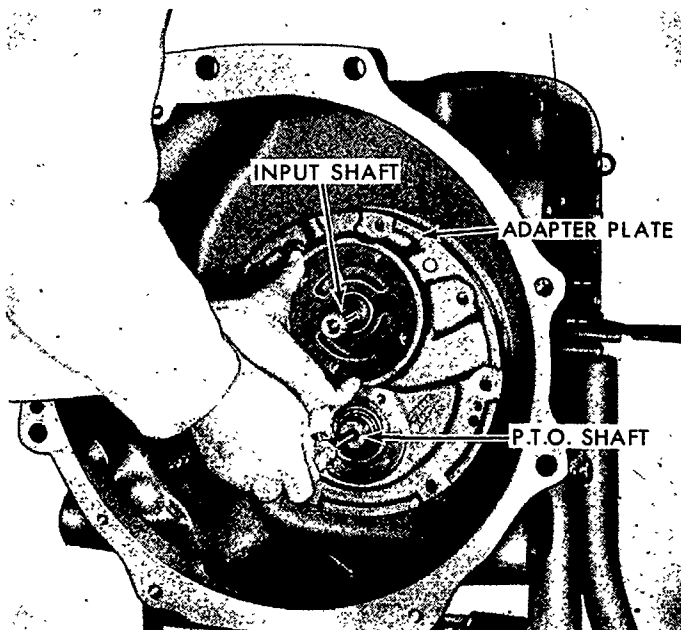

Figure 87
3. Install the two front shaft seals on the input shaft and center them, using petroleum jelly. Install the pump adapter plate and gasket, as shown in Figure 87, and secure with six bolts and one nut. Tighten the bolts to the specified torque, page 83.
11. Install the pump adapter plate and gasket, holding the P.T.O. shaft up, as shown in Figure 87, and secure with six bolts and one nut. Tighten to the specified torque, page 83.